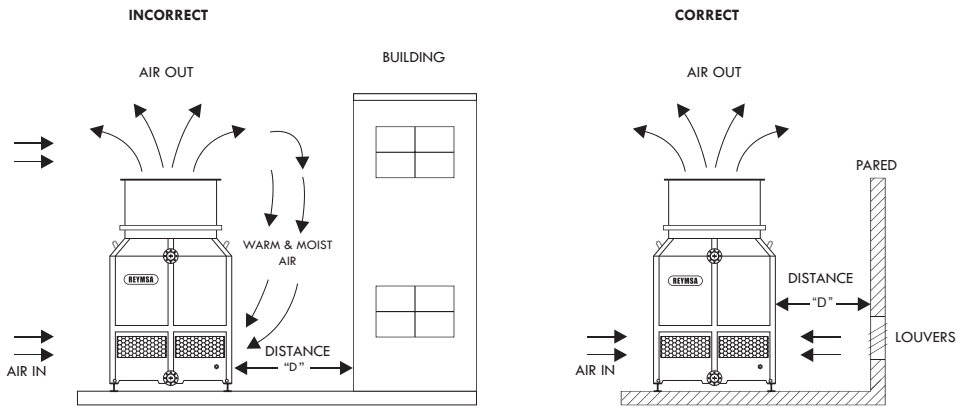

Figure A-2: Recirculation
- Place the cooling tower in a position where it will have at least the recommended clearance on all sides for servicing and adequate air intake. It is advisable and preferred to have the top of the tower above the roofline of any adjacent buildings or other nearby obstructions. This will limit the possibilities of the air recirculation back into the towers air intake (See Figure A-2).